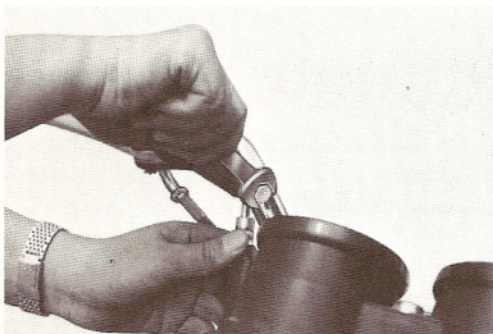

Fig. 4-3-4
- 2) Put a piece of rag beneath the union bolt on the master cylinder to catch drops of brake fluid. Unscrew the union bolt and disconnect the connection between the brake hose and the master cylinder as shown in Fig. 4-3-4.